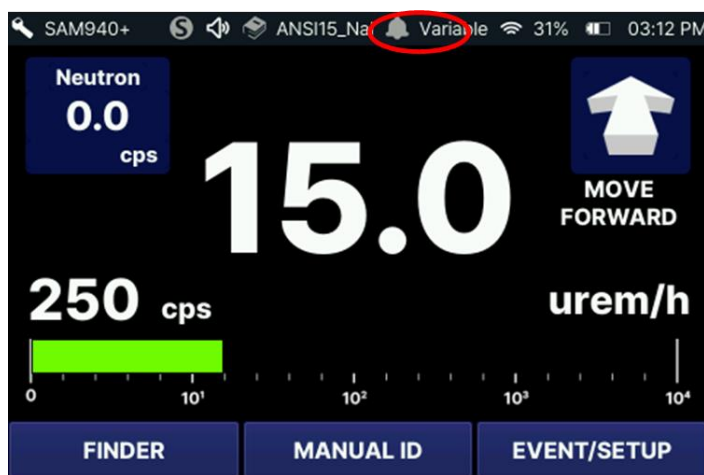

Figure 5.4.1. Status bar example with Fixed Alarm Mode in effect
1. Look at the alarm mode area on the status bar (Figure 5.4.1.). If Variable Alarm Mode is in effect, allow about 20 seconds for the unit to collect background and threshold data before surveying.